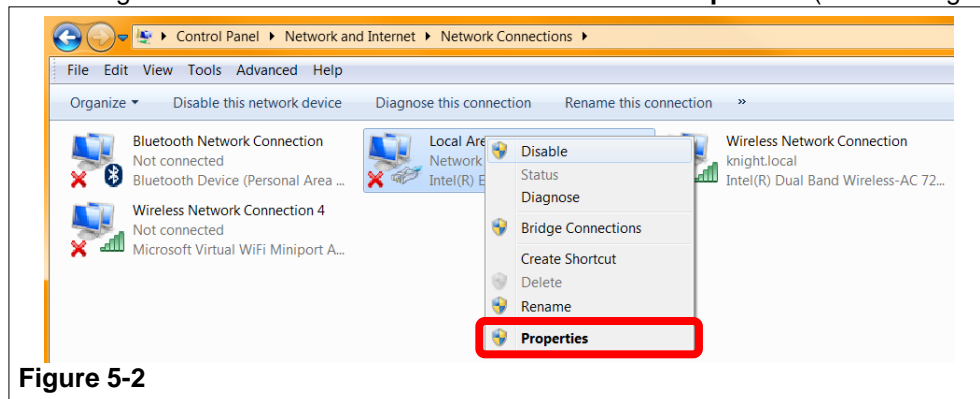

Figure 5-2
- Right click on **Local Area Connections**. Select **Properties**. (Refer to Figure 5-2)